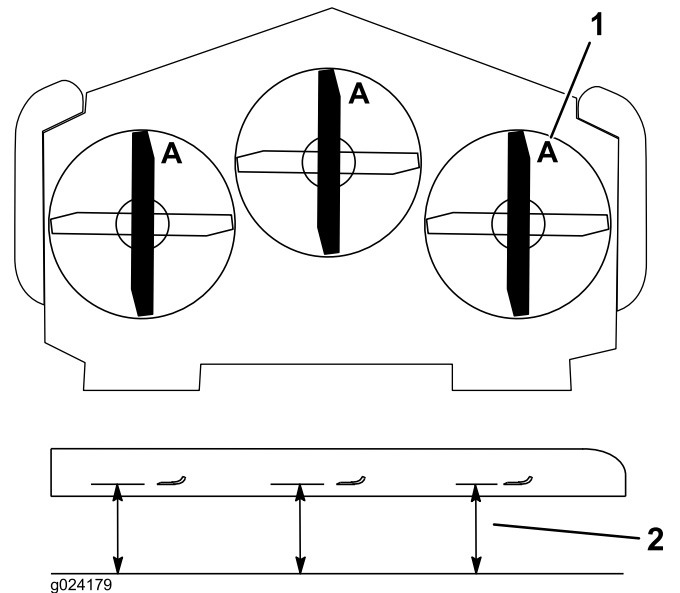

Figure 90
3. Rotate the blades until the ends face forward and backward (Figure 90).
4. Measure from a level surface to the cutting edge, position A, of the blades (Figure 90). Note this dimension.